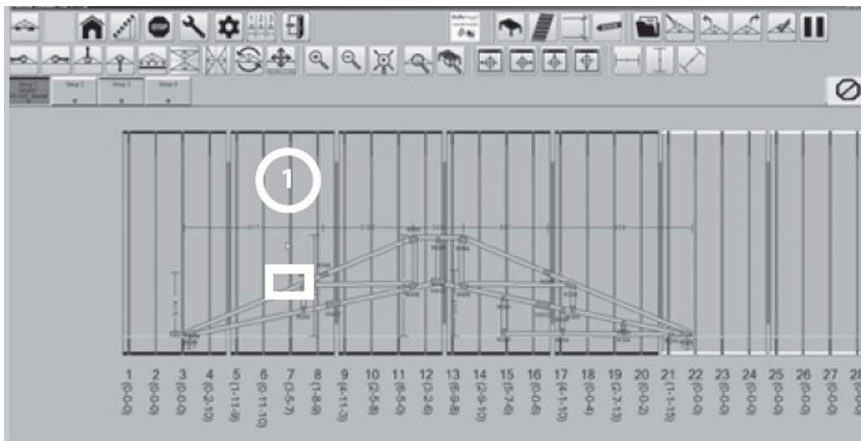

FIGURE 44
1. Select a puck to move by clicking on its axis, the axis will turn red (Figure 44)